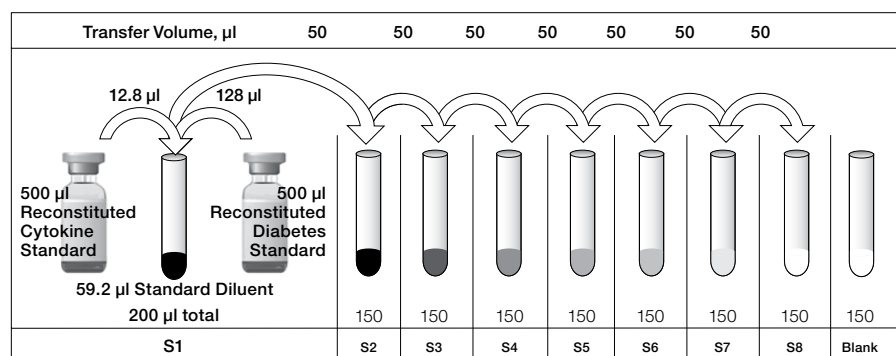

Fig. 5. S1 mixture and fourfold dilution series of diabetes and cytokine standards for detection at high PMT.
2. For high PMT/narrow range cytokine standard curve, add 59.2 μl of standard diluent to the S1 tube (Figure 5).
- For high PMT/narrow range cytokine standard curve, add 12.8 μl of the reconstituted cytokine standard and 128 μl of the reconstituted diabetes standard to the S1 tube for a total volume of 200 μl (Figure 5). Vortex for 5 sec.
- Add 150 μl of standard diluent to the remaining tubes, as shown in Figure 5.
- Continue with 1:4 (fourfold) serial dilutions from tube S2 to S8 as shown in Figure 5. Vortex briefly after each volume transfer.